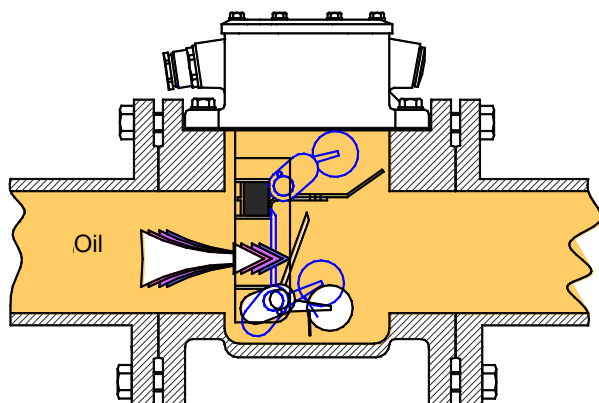

Figure 9 - Insulating liquid flow
3.3 Insulating liquid flow (Figure 9)